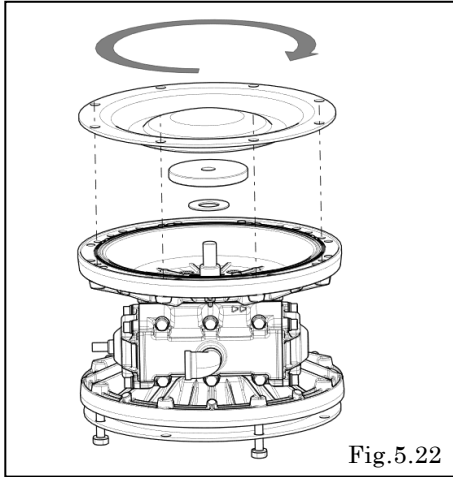

Fig.5.22
- Rotate the diaphragm clockwise by hand until it's tightened [Fig.5.22].